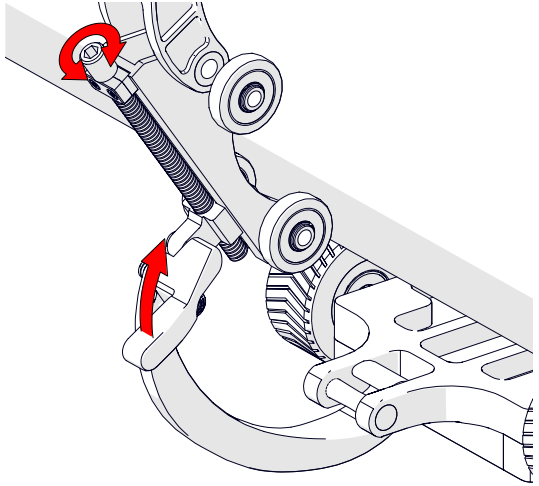

Fig. 92 - Adjust buckle as required
10. The buckle adjustment knob may have to be tightened or loosened to allow the buckle arm to reach/hook the chain link's axle (Fig. 92).
11. The buckle adjustment knob may have to be tightened or loosened to achieve the required chain tightness (Fig. 92).